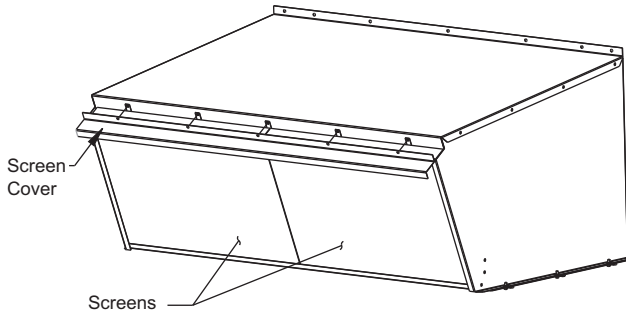

Fig. 18 — Outdoor Air Hood Screens
2. Remove the screen cover. See Fig. 18 for hood screen locations.